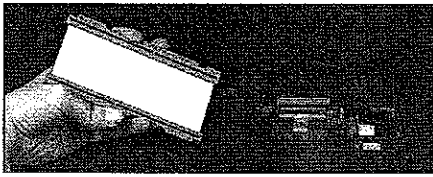

Figure 37
**Note:** For next few steps, it is important to keep just enough pressure to ensure that the LCD is seated into the zebra retainers (see Figure 37).